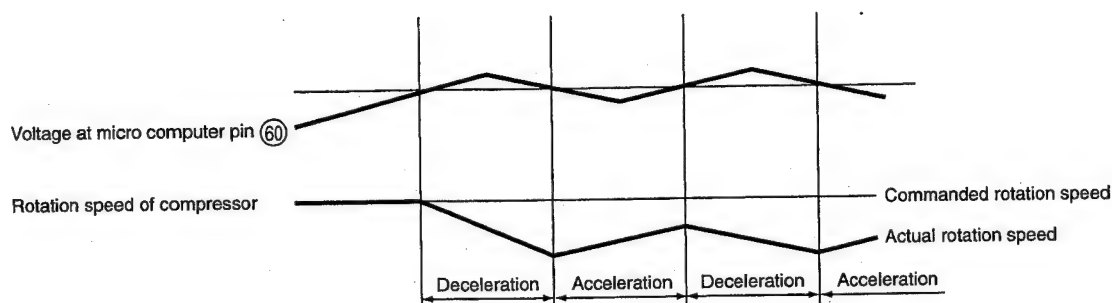

Fig. 8-7
- The filter consisting of R2 and C515 removes high harmonic components from the voltage generated by the current flowing to Detection resistor; R2 and C501A average the voltage. This voltage is then input to OP1 pin ⑤ and amplified and is supplied to micro computer pin ⑥⑩. The micro computer compares this input with the internally set value, and if the input exceeds the set value, it enters overload control status.
- Fig. 8-7 shows the rotation speed control. When the voltage at pin ⑥⑩ of the micro computer exceeds the set value, the micro computer decreases the rotation speed of the compressor and reduces the load regardless of the rotation speed commanded by the indoor micro computer.